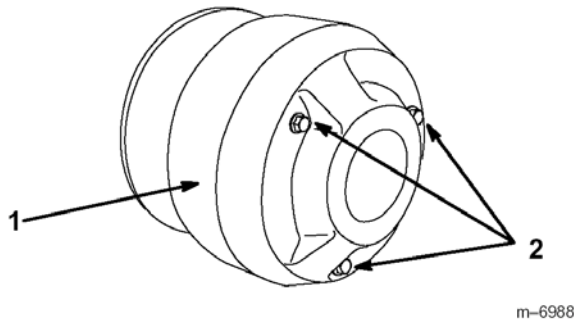

Figure 2
- Remove the 3 bolts securing the cover to the clutch and remove the cover (Fig. 2).